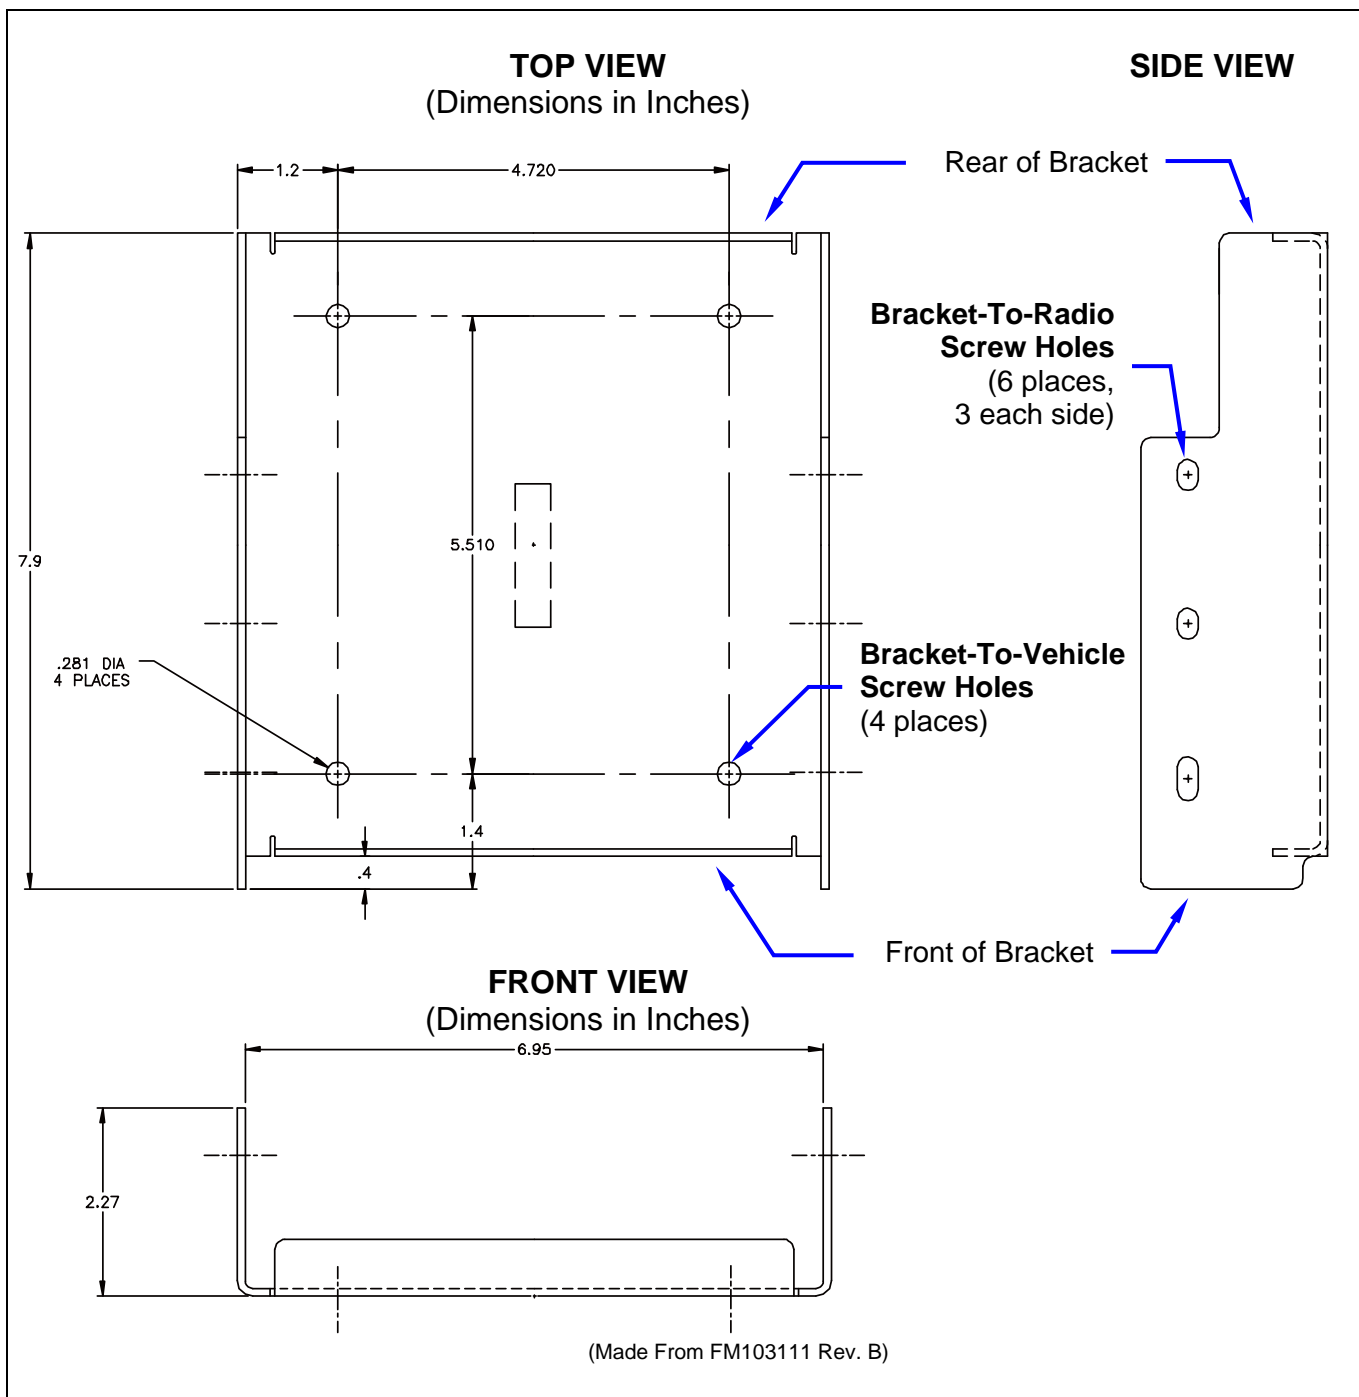

Figure 8-3: Mounting Bracket FM10311V1 Dimensions
6. Using the bracket as a template, and/or the dimensional information shown in Figure 8-3, mark and drill at least four (4) mounting holes into the mounting surface as required per the type of hardware used.
As illustrated in Figure 8-3, the bracket is left-to-right symmetrical and the shortest portion of its side rails are at the rear.
1. Using the mounting bracket as a template, and/or the dimensional information shown in Figure 8-3, mark and drill four (4) mounting holes into the mounting surface as required per the type of hardware used. When the radio is installed in the bracket, it will extend approximately one (1) inch past the front edge bracket, and at the rear, it will extend approximately ½-inch past the rear edge of the bracket. This distance at the rear does not include space required for cable connections at the rear of the radio. As previously stated, a clearance of least four (4) inches (approximately 10 centimeters) at the rear of the radio is recommended.